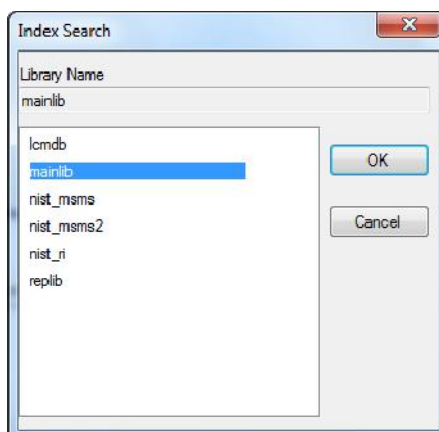

Figure 7-11 Index Search
(8) Click [Qualitative Analysis], [Index Search] to open the dialog box for selecting index database, as shown in Figure 7-11.